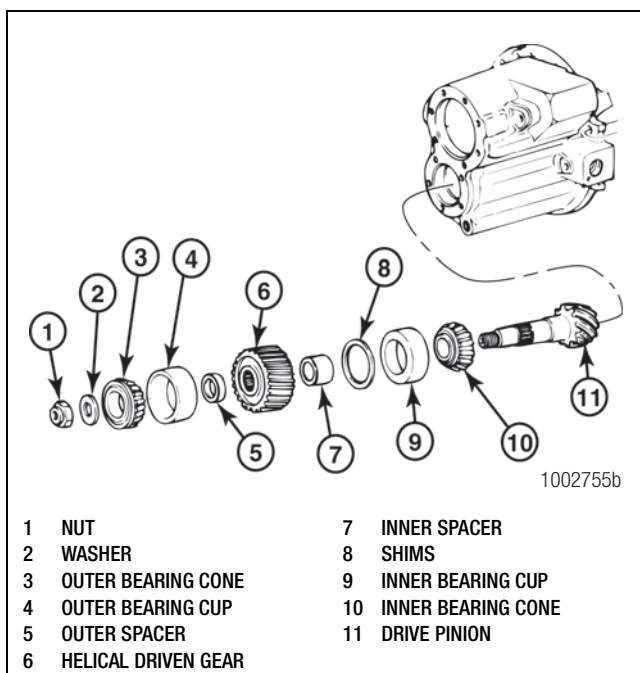

Figure 3.52
1. Remove the nut and washer from the drive pinion. You loosened the drive pinion nut when you removed the input shaft assembly. Figure 3.52.